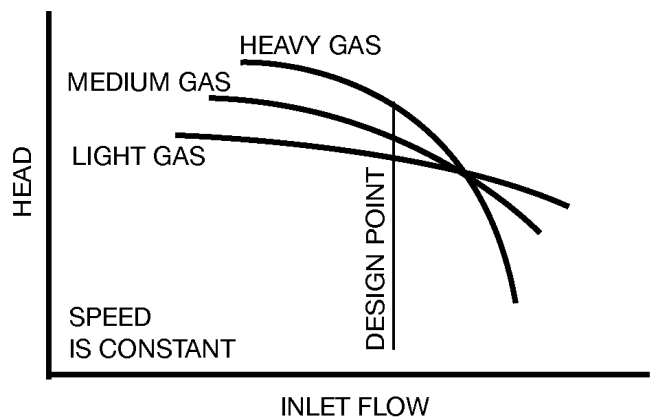

Figure 5. Gas Mole Weight Effect on Head.
- For a given pressure ratio, more head is required to compress a low molecular weight gas than for a higher molecular weight gas (Figure 5).